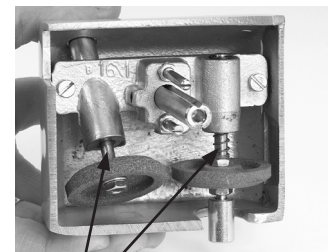

Figure 14-2
2. Put several drops of Globe oil on the shaft behind each sharpening stone (Fig 14-2).